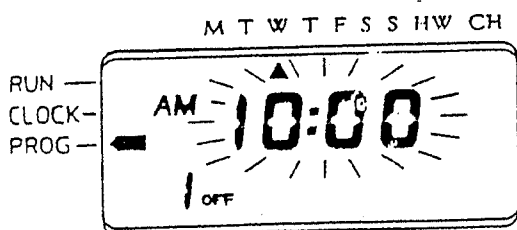

Fig. 9.
- (c) The display will now show "1 OFF" and the first programmed OFF time for the day will flash (Fig. 9).